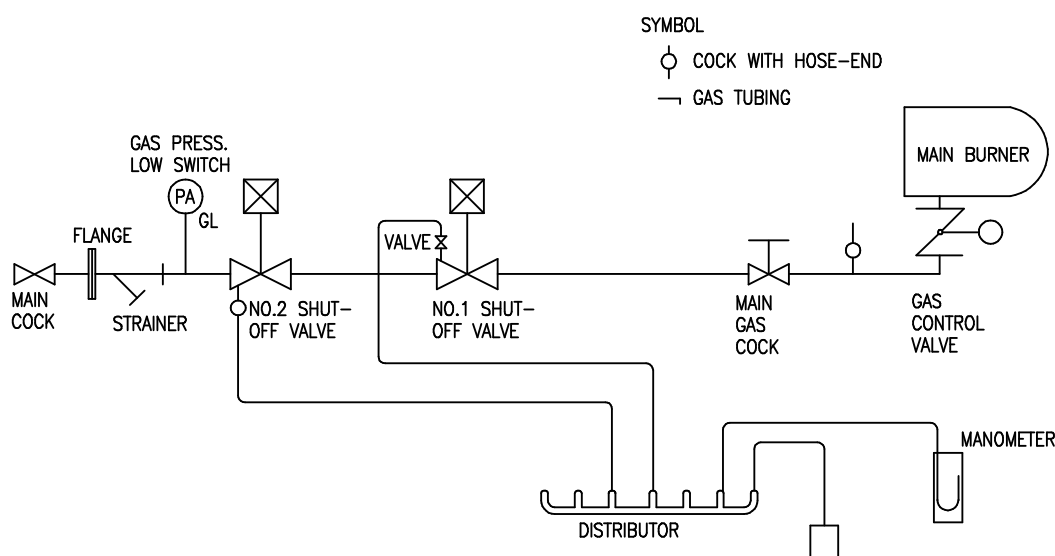

Fig. 8-5 Method of Leak Test for Gas Train
- Make the piping for this testing as shown in Fig. 8-5.